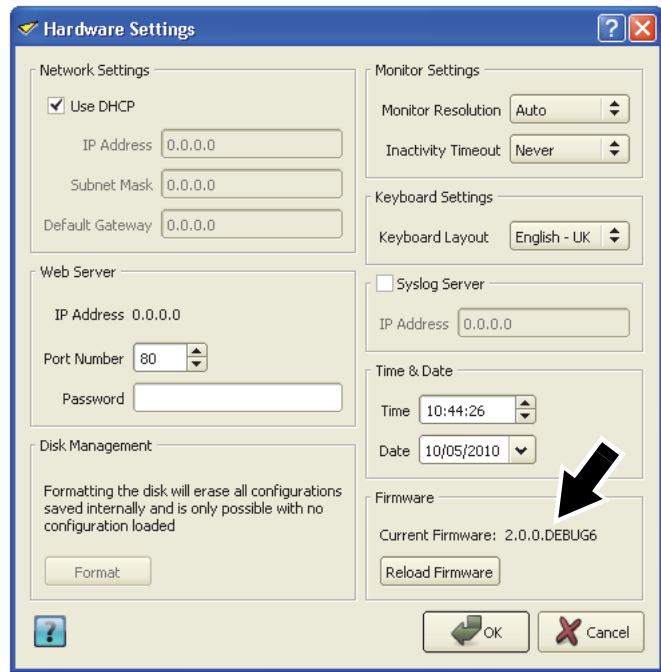

Figure 14: Firmware version and reloading firmware
5. See Figure 14 (the **Hardware Settings** window shown may vary slightly depending on product and firmware version installed, but the procedure is basically the same). The current firmware version is displayed in the **Firmware** panel (arrowed). Click on the **Reload Firmware** button and browse to the correct firmware file on the USB memory device. Click on **Open** and wait while data is copied.